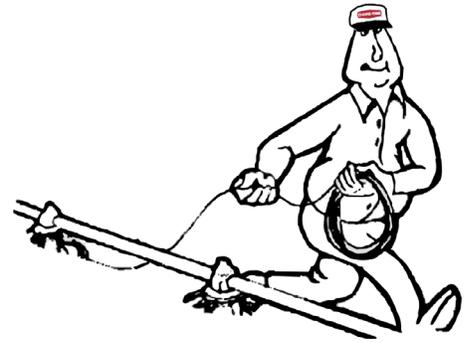

Figure 36. Unrolling Cable
1. Unroll the bulk anti-roost cable. Note: If the cable is unrolled as shown in **Figure 36.**, taking 5 loops of the coil with one hand, then changing hands to remove 5 loops as it is unrolled, it will lie flat during installation.